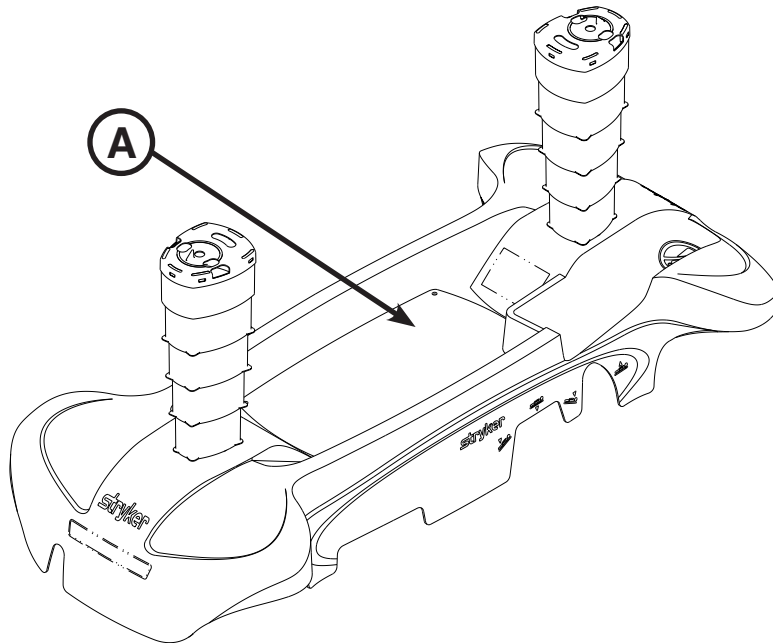

Figure 31: Base Hood Storage
You can store items in the base hood (A) as shown in Figure 31.